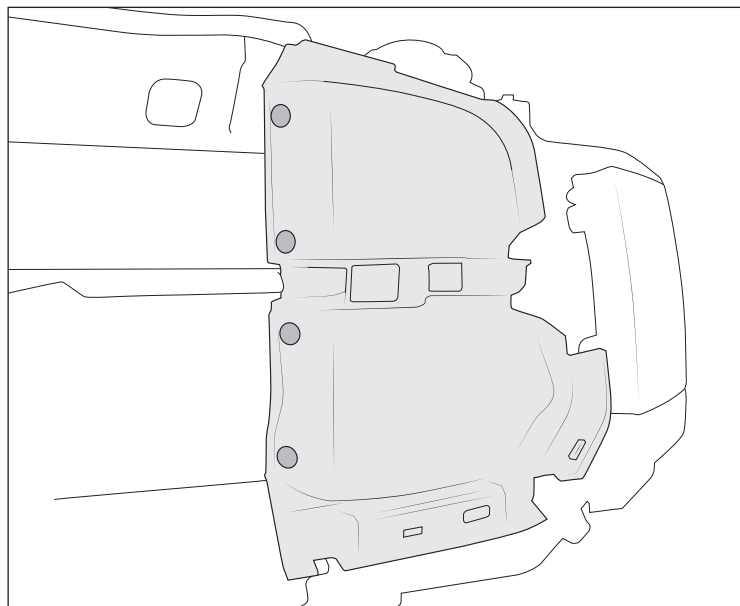

Figure 9
5. Drill additional 1/4" holes on inboard sides of air diverters and through plastic radiator surround (fig. 9).